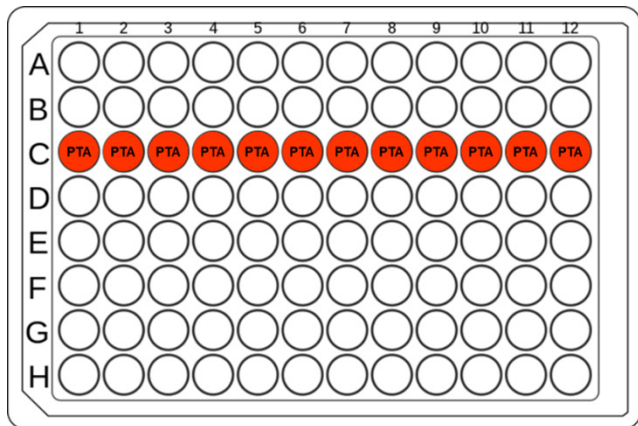

Figure 10: PTA Mix in Amplification Master Mix Plate.
- Using a single-channel pipette, aliquot the **PTA Mix** evenly across all 12 wells of Row C of the 96-well **Amplification Master Mix Plate** (Figure 10). Seal the plate, briefly spin to collect all liquids in the bottom of the wells, and place on ice. Ensure there are no bubbles present in the bottom of the wells.